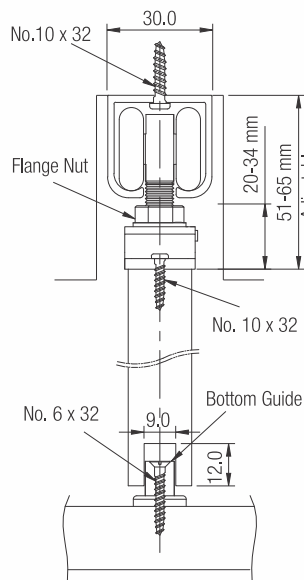

Fig.2
2. The bottom guides (2 Nos.) are fitted on the floor. The groove required in the door is 9mm wide and 12mm deep (Refer Fig. 2).
4. The door is hung on the sliding fitting and flange nut is tightened. Height adjustment of 14mm is available (Refer Fig. 2).